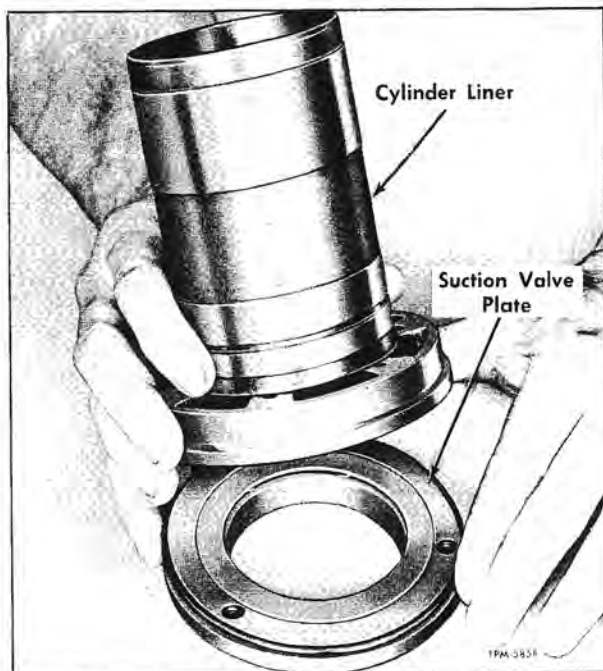
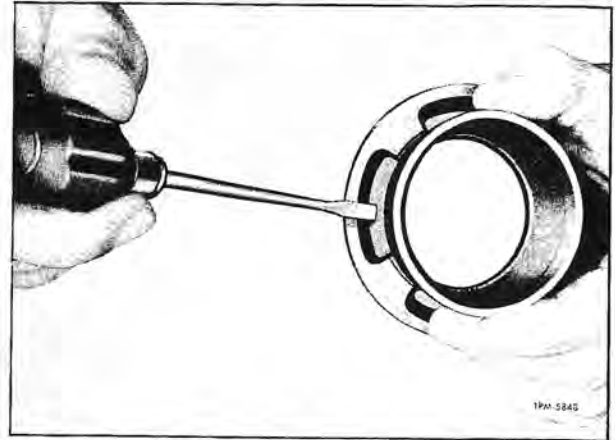

Figure 83—Locating Cylinder Liner on Suction Valve
Figure 84—Checking Suction Valve Alignment
3. Locate cylinder liner (48) on valve plate (fig. 83), then invert both liner and plate and set in upright position on bench. Install three socket head screws attaching plate to liner. Tighten screws snug only. Again invert liner and plate and with small screwdriver check suction valve ring to see that its movement is not restricted (fig. 84). Tighten plate attaching screws to 7 foot-pounds torque.